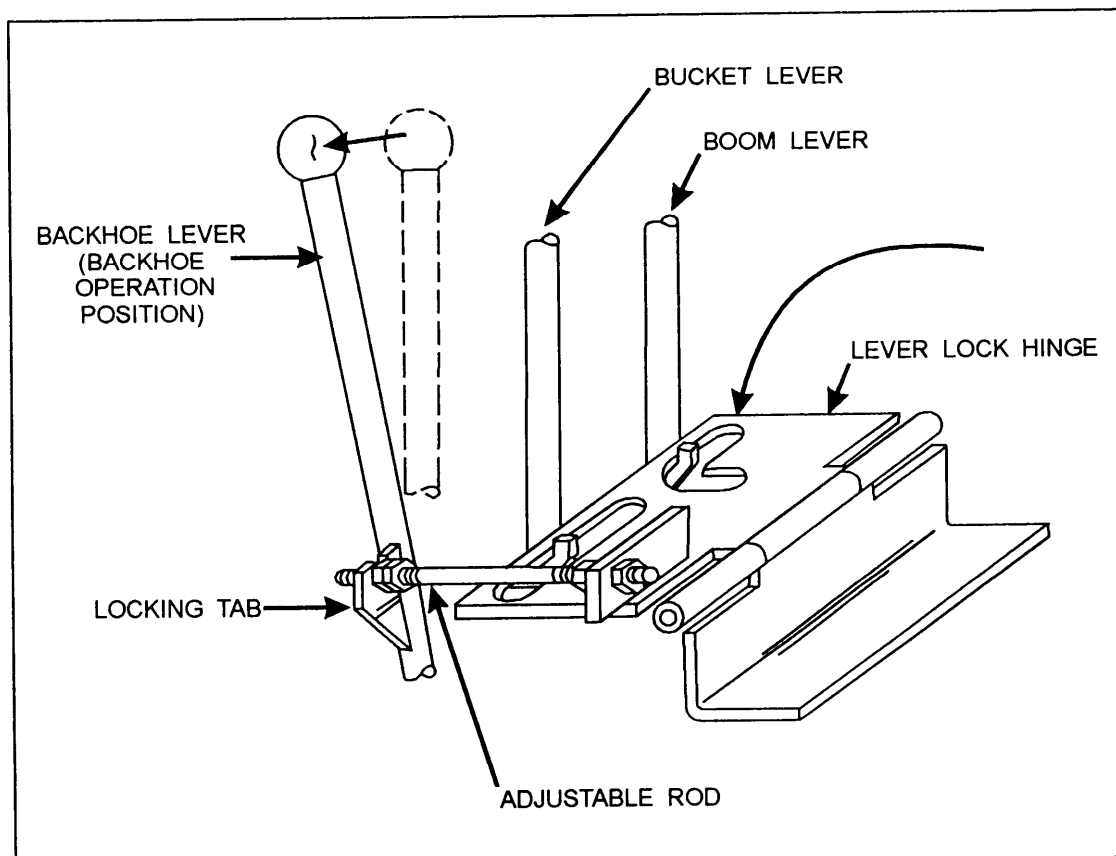

Figure 9-39.—Backhoe operation locking lever locking plate.
3. For backhoe operations, place the two levers furthest from the operator in the hold position. Place the lever closest to the operator in the forward position. Move the locking plate in the position shown in figure 9-39, locking the lever in the forward position and the two other levers in the hold position.